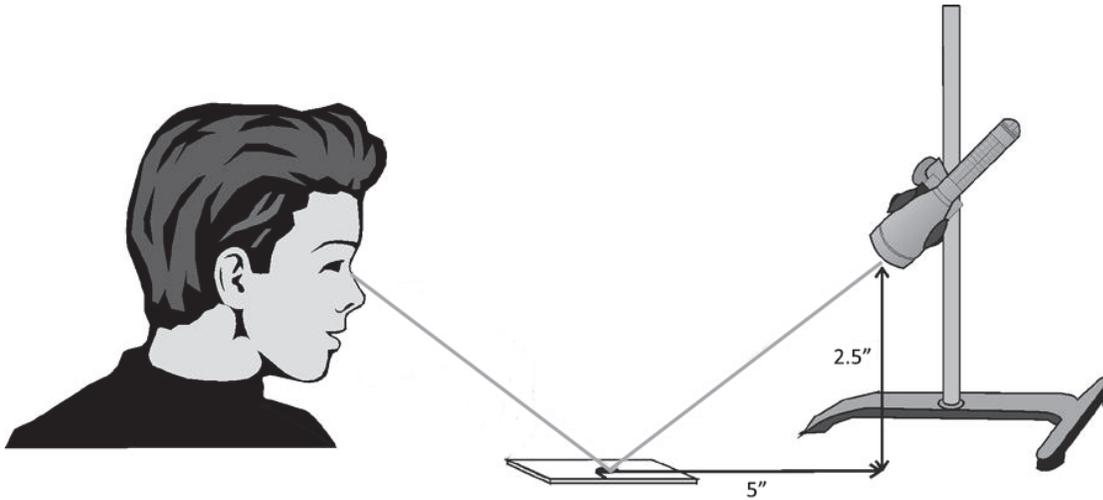

Figure 2 *Polarizer with Analyzer Illustrated*
5. Adjust the LED flashlight assembly from Part 1 so that it sits about 2.5 inches high at an angle so the beam hits the base plate about 5 inches in front of the light source. Place a microscope slide on the table at the position of the focused spot. Refer to Figure 2.